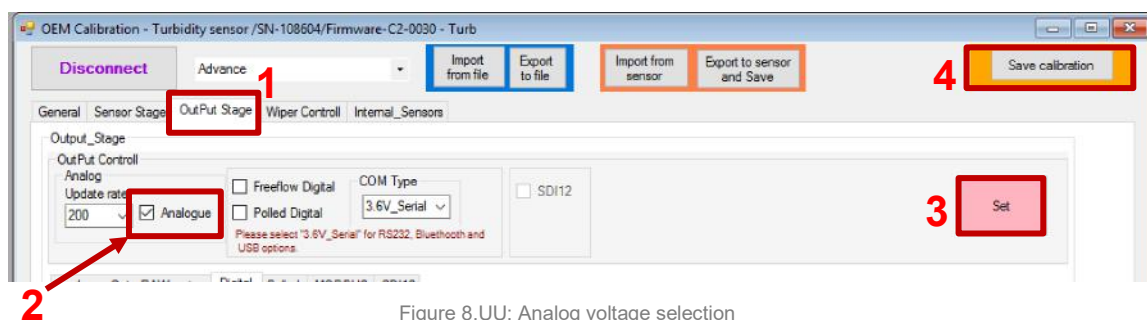

Figure 8.UU: Analog voltage selection
- Select “OutPut Stage” option (Figure 8.UU: #1).